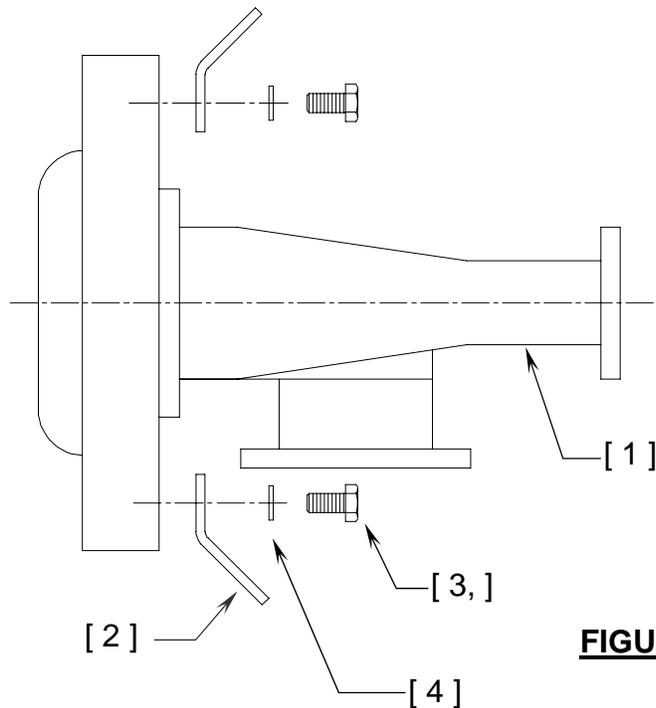

FIGURE 3
Attach four feed mounting brackets (item 2) to the scalar ring of the C-band feed horn using 940 1/4" X .50" bolts and (4) 1/4" lockwashers (items 3, 4) as shown in Figure 3. Tighten all hardware securely.